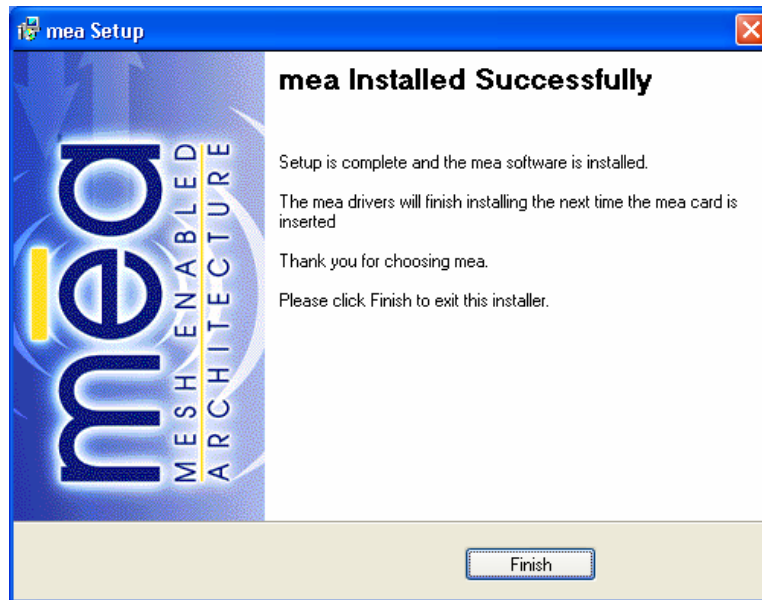

Figure 25. Finished Popup Dialog Box
18. The *mea Installed Successfully* dialog box will appear as shown in Figure 25. Click on the **Finish** button to exit.